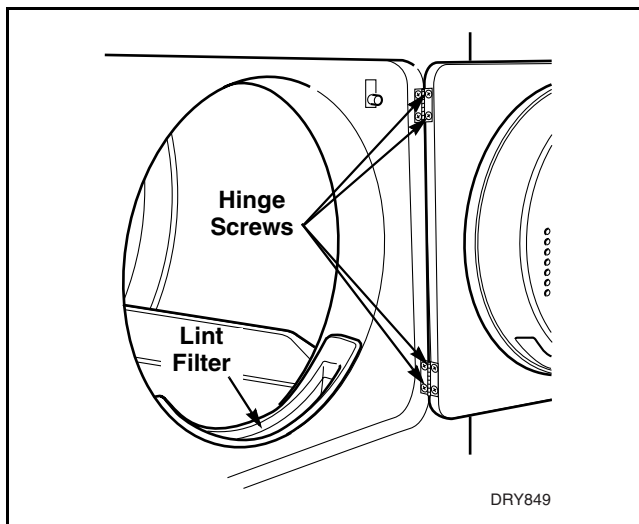

Figure 11
- (4) Disconnect molex plug and remove strain relief and power cord from rear of dryer cabinet.
- a. Remove four Phillips head screws holding hinges to door. Refer to *Figure 11*.
Refer to *Figure 11*
- a. Open loading door and remove four screws holding door assembly to hinges. Refer to *Figure 11*.